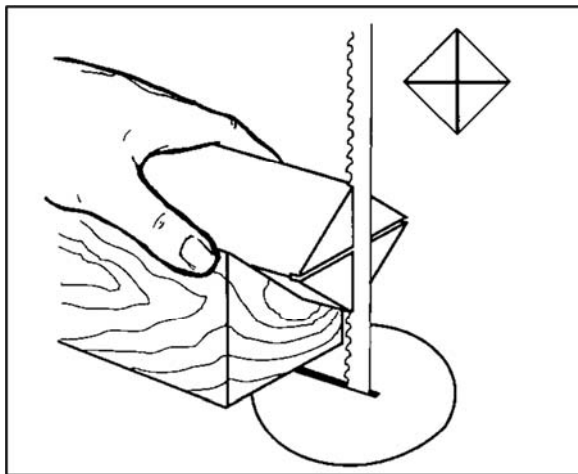

Figure 19
2. Extremely hard woods may require kerfs cut into the ends of the stock (Figure 19) using a band saw, so the wood will accept the spur center and the live center.